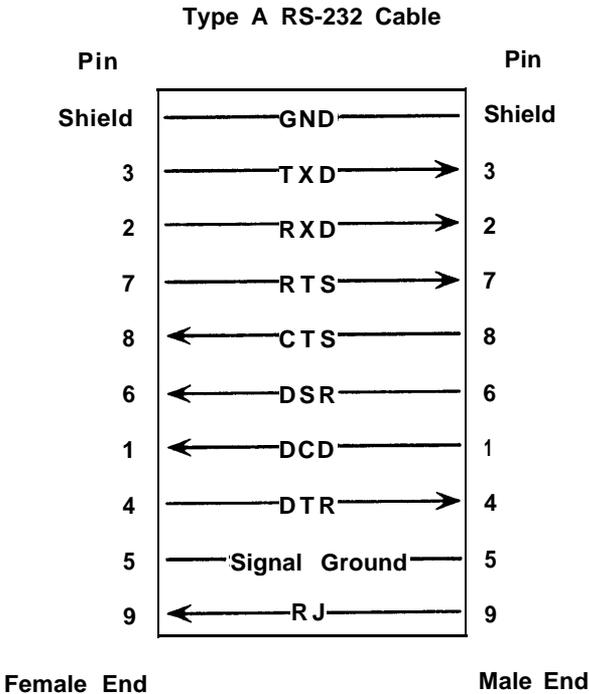

Figure 7. RS-232 Pinouts
1. Connect one end of the RS-232 cable to the serial port of the device containing the call center software and the other end to the converter RS-232 port. On some devices you may need to use a DB25-to-DB9 adapter for the serial port. Figure 7 shows the pinouts for the RS-232 cable.